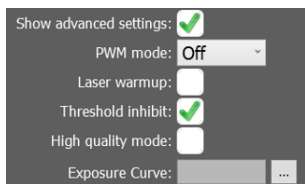

Figure 3-55 Exposure recipe advanced settings
- Additional fill in fields become visible, see Figure 3-55.